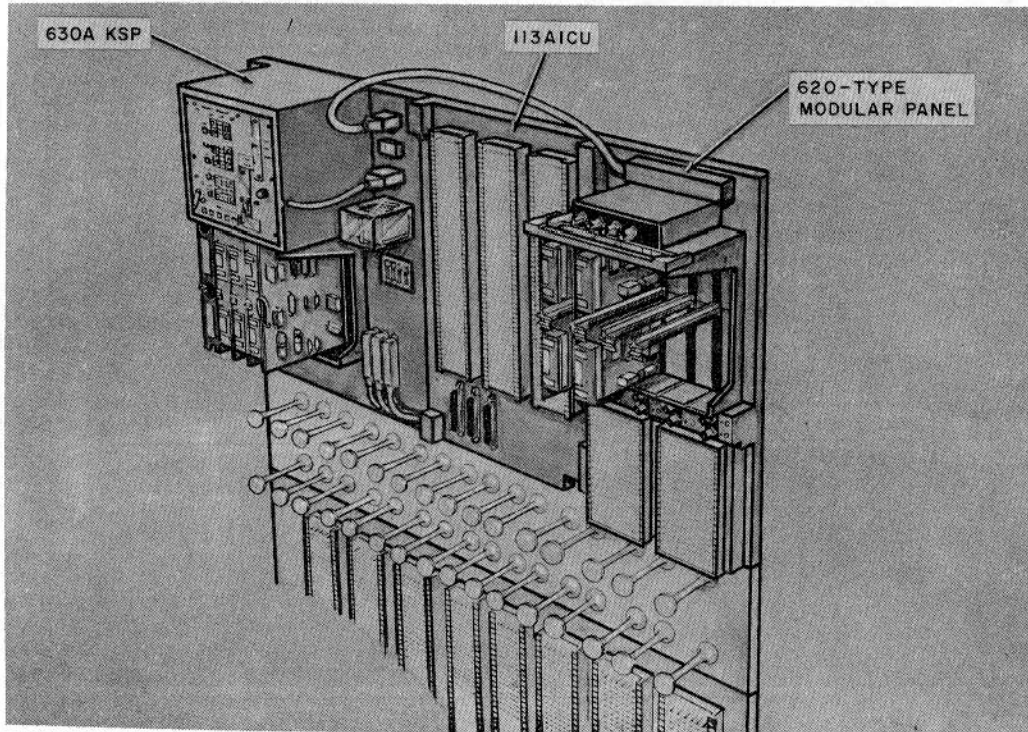

Fig. 7—♦Typical Large KTS Installation With 630A KSP, 113A1 CU, and 620-Type Modular Panel♦
**3.08** ♦A preferred installation method is illustrated in Fig. 7 using the 630A KSP (Section 518-215-424) as the first modular panel in a centralized terminal field. The 287A1 power supply in the 630A KSP will power two additional modular panels. With the arrangement in Fig. 7, the installer has the option of using the 113A1 connecting unit (CU) and modular panel terminals as a station terminal (BLUE) field, or may use the 113A1 CU and modular panel terminals as a KTS equipment (RED) field with the station terminal (BLUE) field mounted below.♦